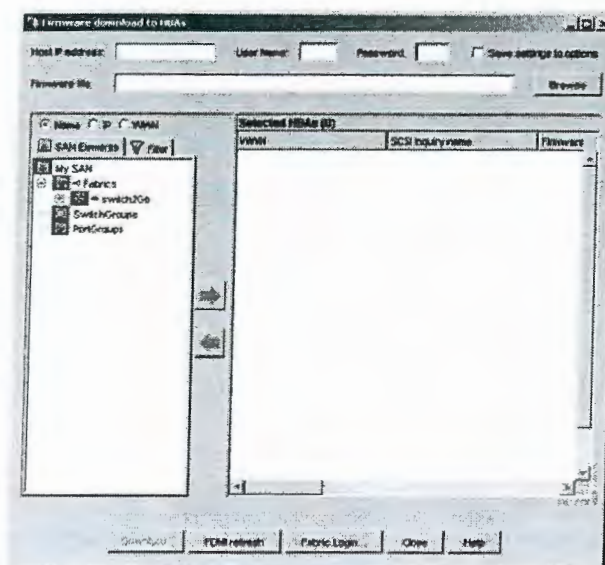

Figure 19-1 Firmware Download to HBAs Window
2. From the **Tools** menu, select **Firmware download to HBAs...** The **Firmware download to HBAs** window opens (Figure 19-1).